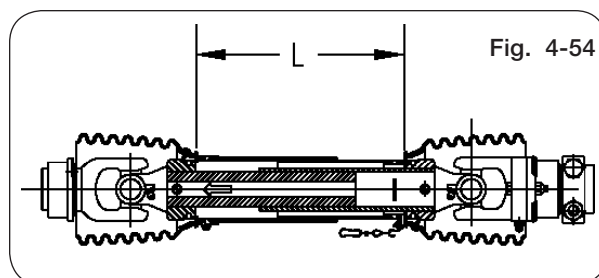

Fig. 4-54
1. Fully collapse PTO shaft and measure length "L" (Figure 4-54).